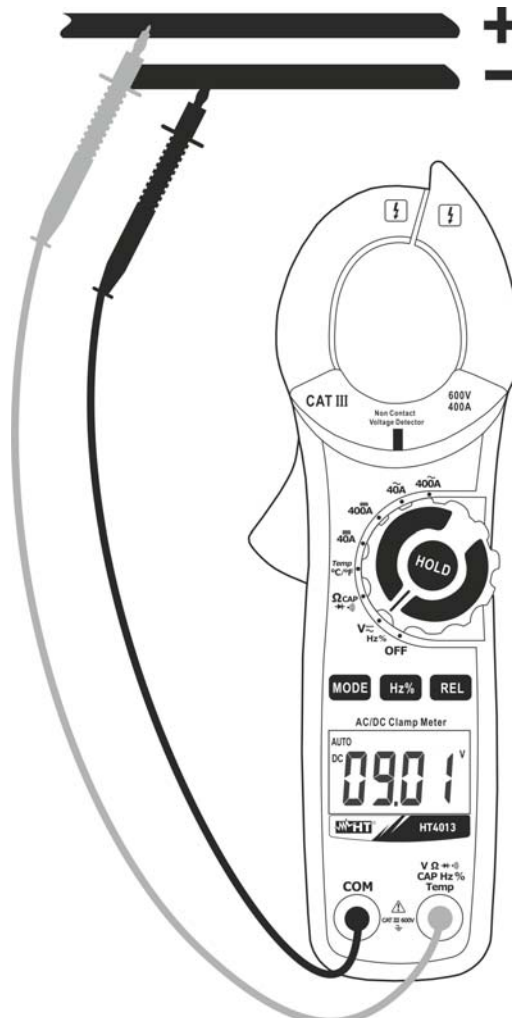

Fig. 2: Use of the clamp for DC voltage measurement
2. Insert the red cable into input terminal **V Ω ▶▶▶CAPHz%Temp** and the black cable into input terminal **COM** (Fig. 2).